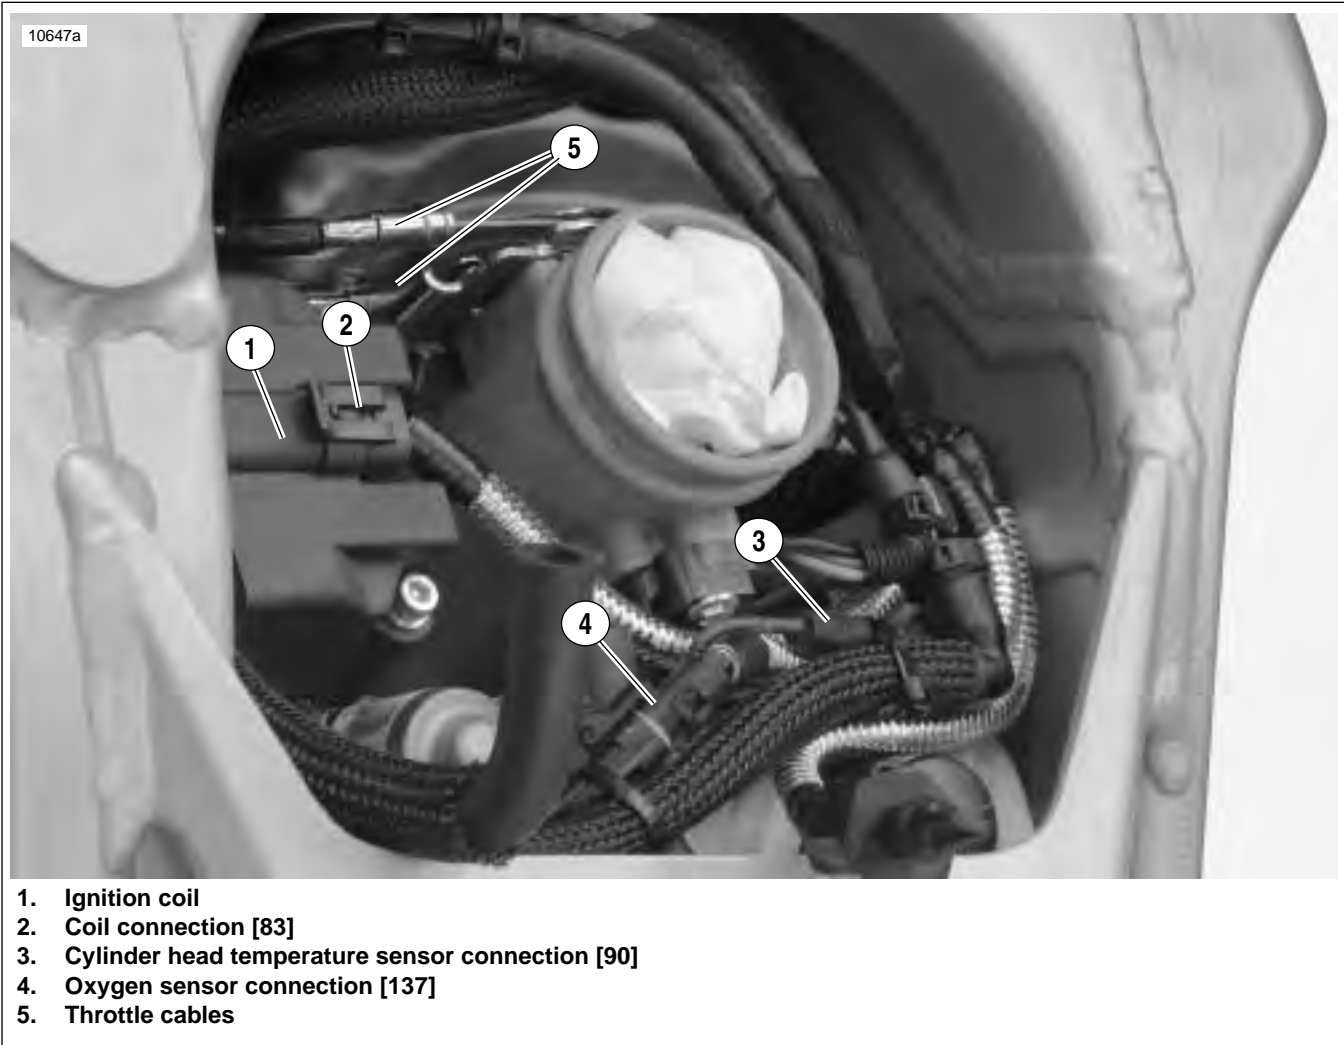

Figure 3-55. Electrical Connections and Throttle Cables (Typical)
37. See Figure 3-55. Connect throttle cables to induction module/throttle body. See 1.15 THROTTLE CABLE AND IDLE SPEED ADJUSTMENT.
39. See Figure 3-55. Install the ignition coil and spark plug wires and connect [83s]. Tighten ignition coil fasteners to 120-144 in-lbs (13.6-16.3 Nm).